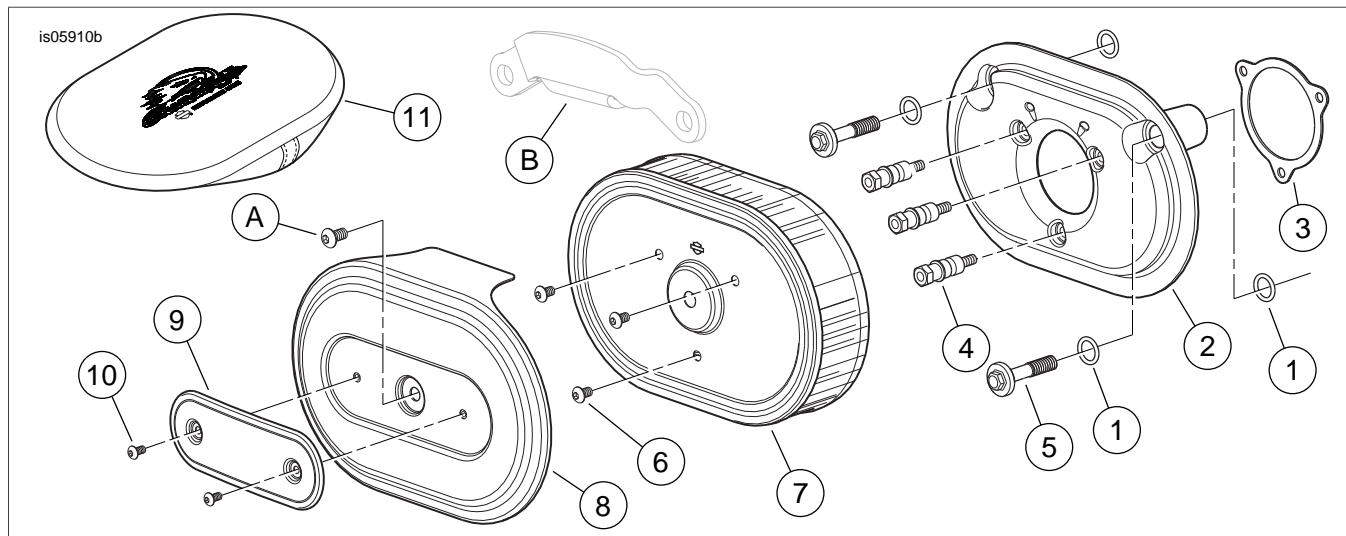

Figure 3. Service Parts, Screamin' Eagle Ventilator Performance Air Cleaner Kit
See Figure 3 and Table 1.
1. See Figure 3. Install two O-rings (1) from the kit in the grooves around the breather bolt holes on the induction module side of the backplate assembly (2). Install the remaining two O-rings in the grooves in the underside of the heads of the breather bolts (5).
2. Remove the liner from the adhesive backing of the gasket (3). Carefully position the adhesive side of the gasket to the backplate, aligning to the equally spaced screw holes, and press the gasket firmly into place.
3. Insert new breather bolts (5) through the backplate.
6. Thread the air cleaner mounting studs (4) all the way through the backplate (2) until the screw threads are captured in the induction module. Do not tighten completely at this time.
1. See Figure 3. Secure the air filter element (7) to the air cleaner mounting studs (4) using three bright-finish TORX® screws (6) from the kit. Tighten the screws to 55-60 **in-lbs** (6.2-6.8 Nm).
2. Apply Loctite 243 - Blue to the threads of the OE air cleaner cover screw (A). Secure the air cleaner cover (8) to the air filter element (7) with the screw. Tighten the screw to 36-60 **in-lbs** (4.1-6.8 Nm).
3. Assemble the air cleaner cover insert (9) to the air cleaner cover with two chrome screws (10). Tighten securely.
1. See Figure 3. Remove the air cleaner cover (8) and inspect the filter element (7) every 5000 miles (8000 km), or more often under dusty conditions.